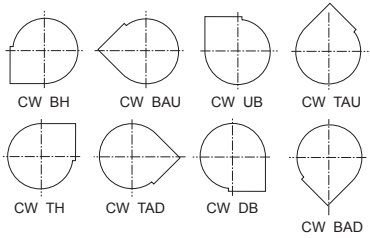

Figure 3
1. This Dayton blower is assembled and shipped in the upblast position. If another position is desired, refer to Figure 3 (viewed from drive side) for optional discharge positions.